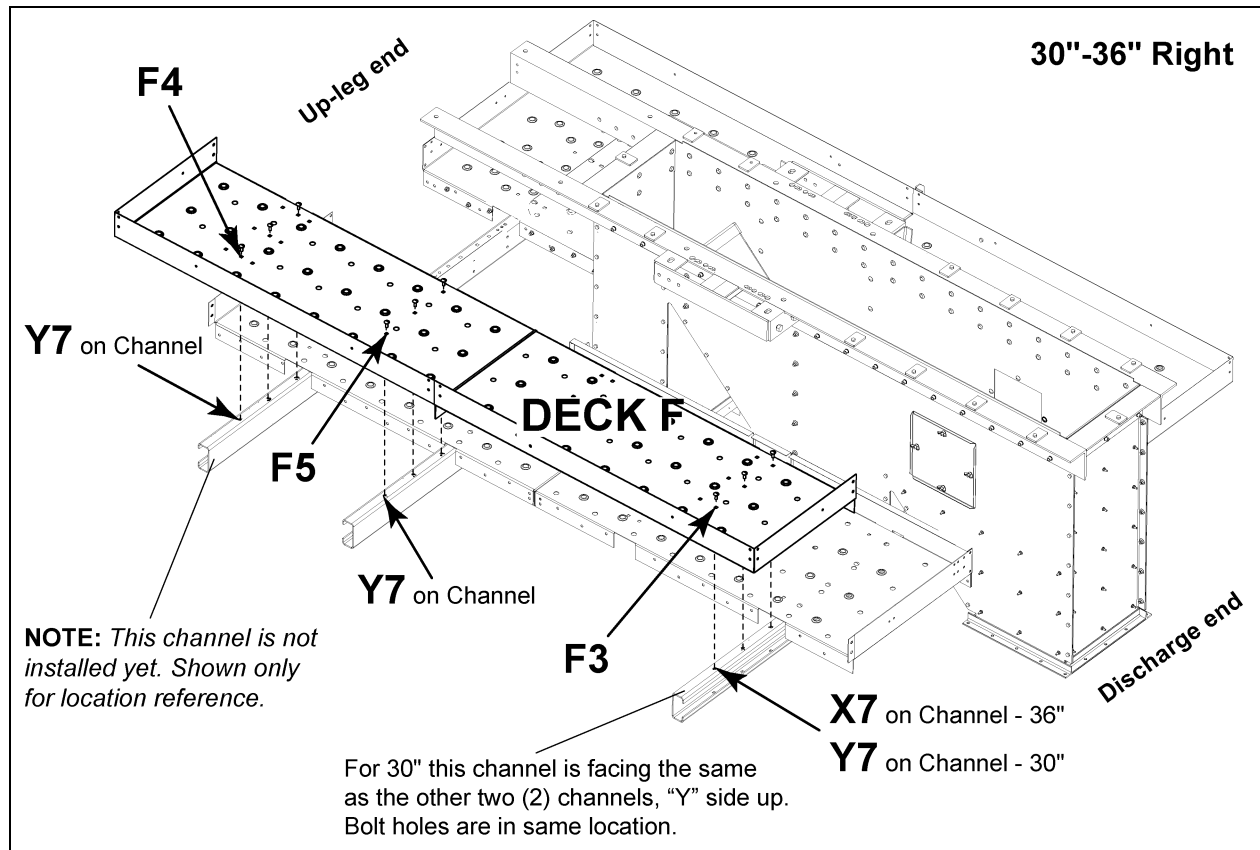

Figure 8L Deck F to Cross Deck Support Channel
1. Locate pre-assembled Deck F. This deck consists of two (2) planks.
2. Orient Deck F with hole **F3** at the discharge end of the lower head and **F5** at the up-leg end. *(See Figure 8L.)*
- a. At the **drive side** - channel hole **Y7** on the cross deck support channel to deck hole **F4**. (See Figure 8L on Page 60.)